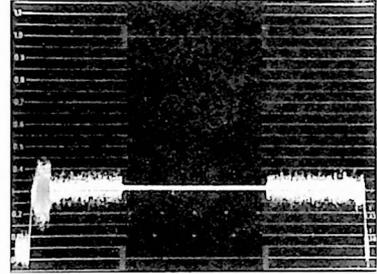

Figure 8-6. Match level with input signal.
- Match the calibrated noise generator level to the incoming noise and read the noise directly from the dials. This is the S/N ratio (figure 8-6 and 8-7).
- The signal-to-noise ratio as requested by the FCC in 376.605(9) is actually the